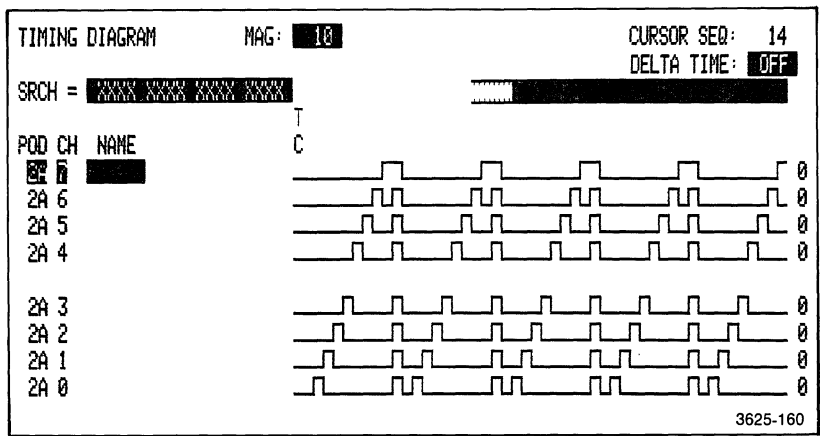

Figure 5-32. Pattern generator external clock line test results.
- When acquisition is finished, examine the Timing Diagram menu. The data acquired from the Pattern Generator should look like the data shown in Figure 5-32.
A display like Figure 5-32 means the pattern generator external clock is being properly received and processed. The next steps verify the operation of the inversion of the external clock signal.
11. When acquisition is finished, examine the Timing Diagram menu. The data acquired from the Pattern Generator should again look like the data shown in Figure 5-32.